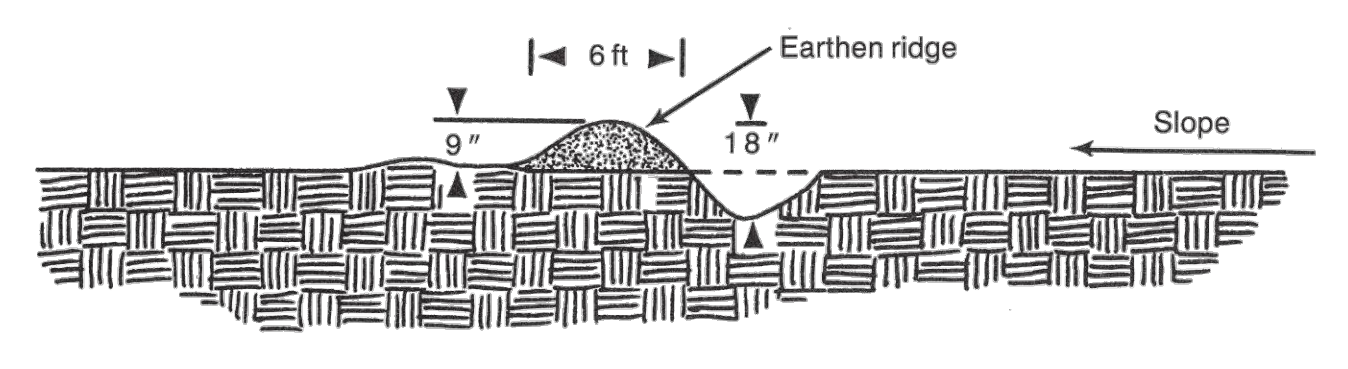

Figure 6.23b Section view of a water bar.
**Base width of ridge**—6 feet minimum (Figure 6.23b).